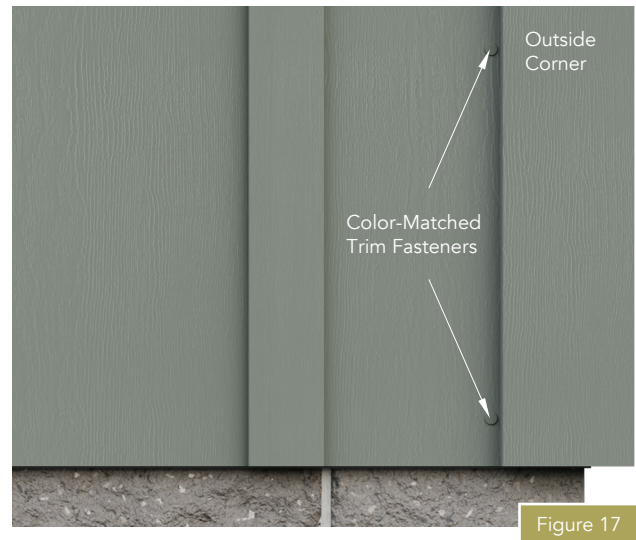

Figure 17
- Use a Color-Matched Trim Fastener to fasten the last piece (Figure 17).